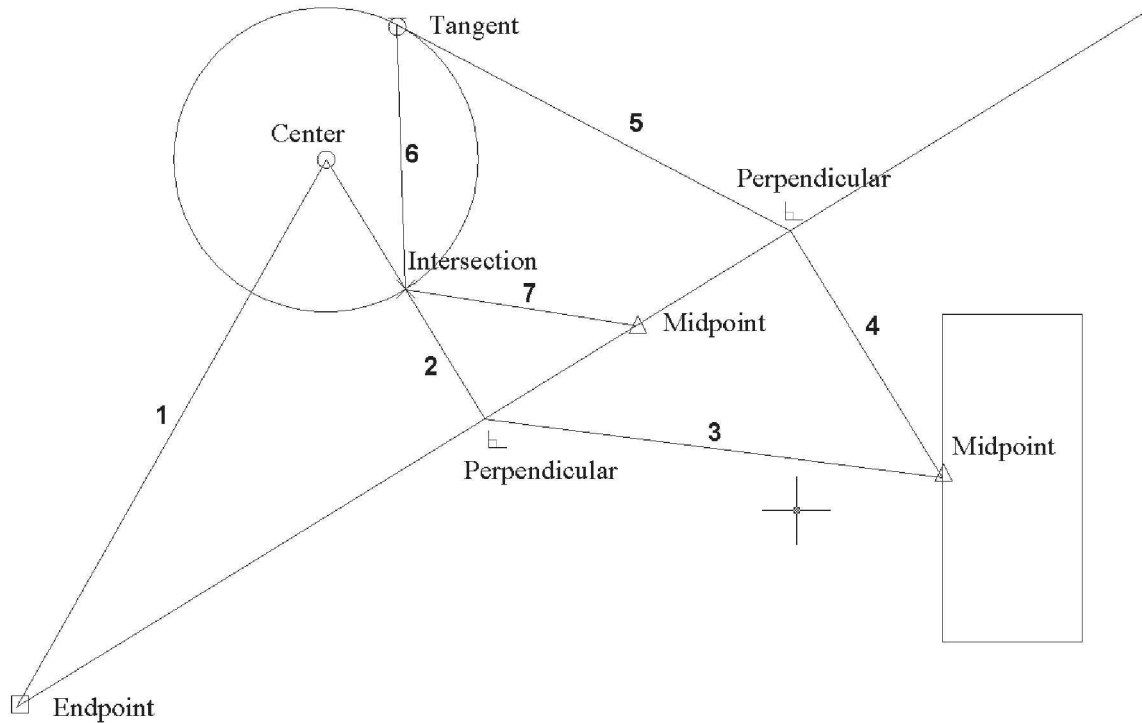

FIGURE 3-2.5 Lines to draw and Snap to use
- 12. Draw the additional lines shown in **Figure 3-2.5** using the appropriate *Object Snap*, changing the selected Snaps as required to select the required points.